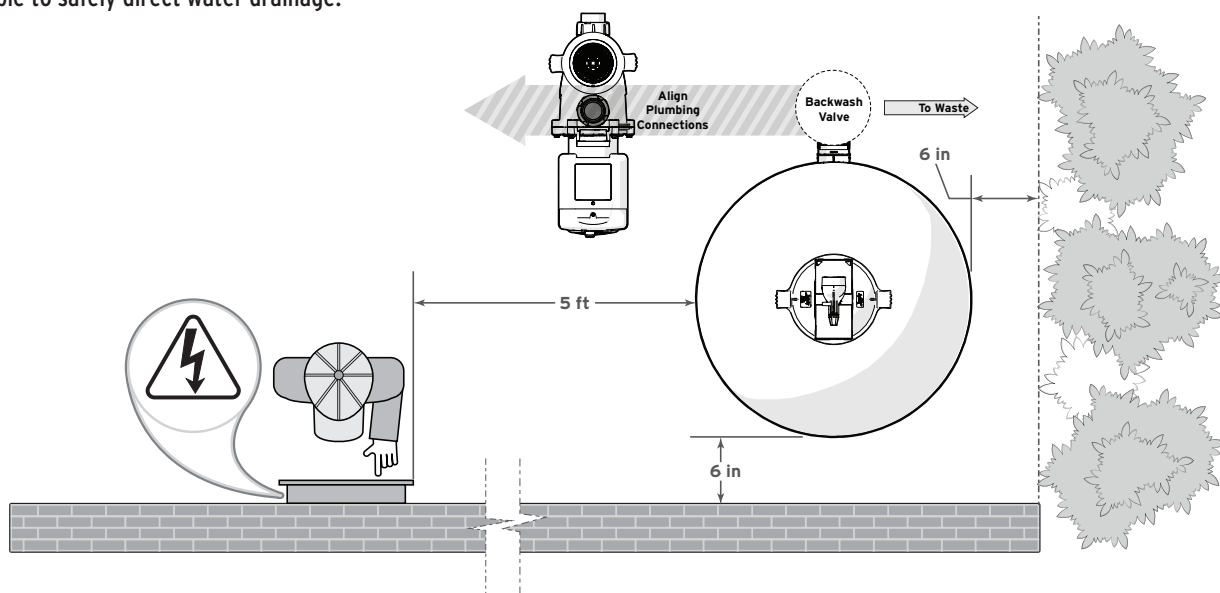

Figure 3. Filter Location Requirements
- Place the filter on the concrete pad, lined up with the inlet/outlet pipes. See **Figure 3**.